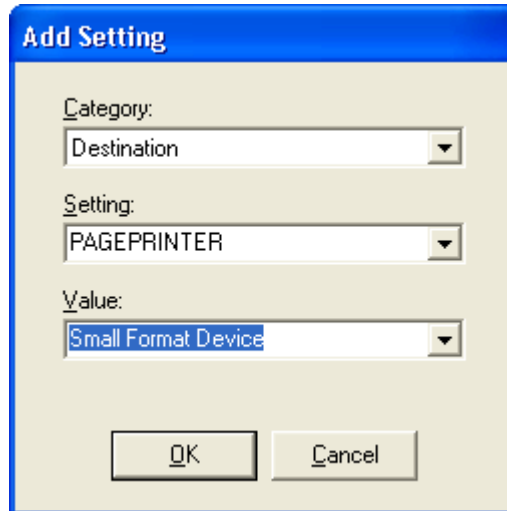

Fig 2.2
- Click the Mandatory Options below, highlight 'Destination' and click [Add]. The Add Setting window (Fig 2.2) will open with Destination displayed in the Category field.
- With the Wide F workflow still selected, click the Mandatory Options tab. Highlight 'Destination' and click [Add]. The Add Setting window (Fig 2.2) will open with Destination displayed in the Category field.